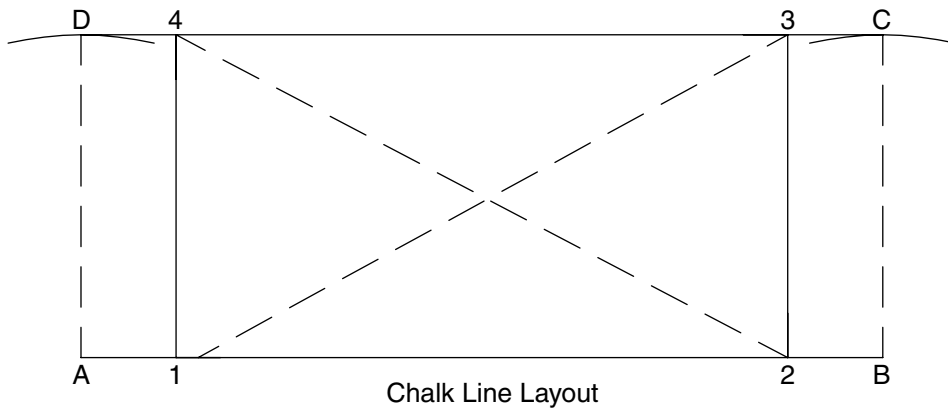

Fig. 4
- C. Once the location is determined use a chalk line to make base line A-B to locate one side of the lift, Fig. 4. Use the width dimension of 13' - 3" to measure off the dimensions A-D and B-C. Draw arcs as illustrated in Fig. 4. Draw a chalk line D-C tangent to the two arcs to establish the other side of the lift.